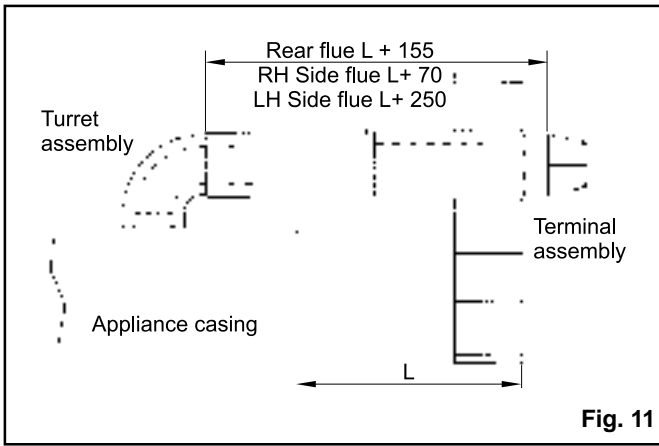
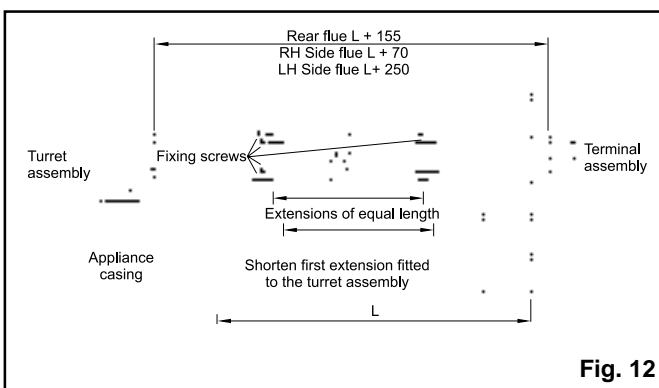

Fig. 11
Fig. 12
2) If  $L$  is within the range 127mm to 500mm then the flue can be telescopically adjusted to the correct length ( $L + 70$  mm for RH side flue,  $L + 250$  mm for LH side flue or  $L + 155$  mm for rear flue). The ducts are then fixed by drilling a pilot hole through the hole in the air duct and screwing the self tapping screw provided into the two ducts (see fig. 11).
Each extension duct must be connected to the first section of flue or the previous extension duct by firstly fitting the inner flue ducts together and pilot drilling and fixing (see fig. 12). Then the outer air ducts can be similarly fixed using the pair of screws provided. The flue terminal section can then be telescopically adjusted and fixed as before (see fig. 11) ensuring the correct length ( $L + 70$  mm for RH side flues,  $L + 250$  mm for LH side flues, or  $L + 155$  mm for rear flues).
4) In the event of  $L$  not falling within any of the above ranges it will be necessary to cut the FIRST extension length. The air and flue duct lengths should both be reduced to the same length:  $L - 240$ mm where one extension is used;  $L - 990$ mm with two extensions and  $L - 1,740$ mm with three (see fig. 12). The flue can then be assembled ensuring that the cut extension is fitted to the turret duct assembly first and that the flue is adjusted to the correct length of ( $L + 70$  mm for RH side flues,  $L + 250$  mm for LH side flues, or  $L + 155$  mm for rear flues) (see fig 11).